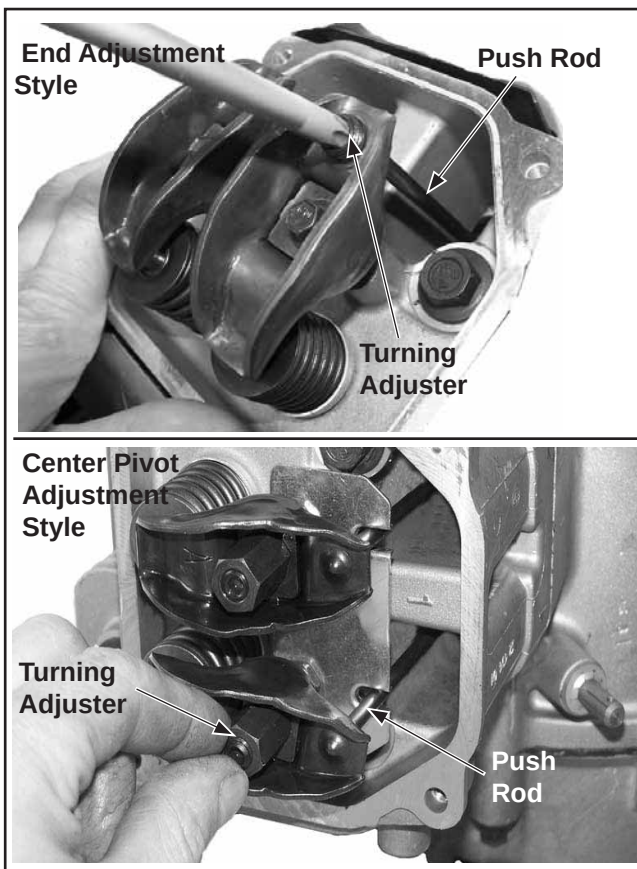

Figure 10-50. Turning Adjusters In to Retain Push Rods.
- Turn the adjusters in the rocker arms or pivots down (clockwise) only enough to capture the push rods in the recesses. See Figures 10-50.